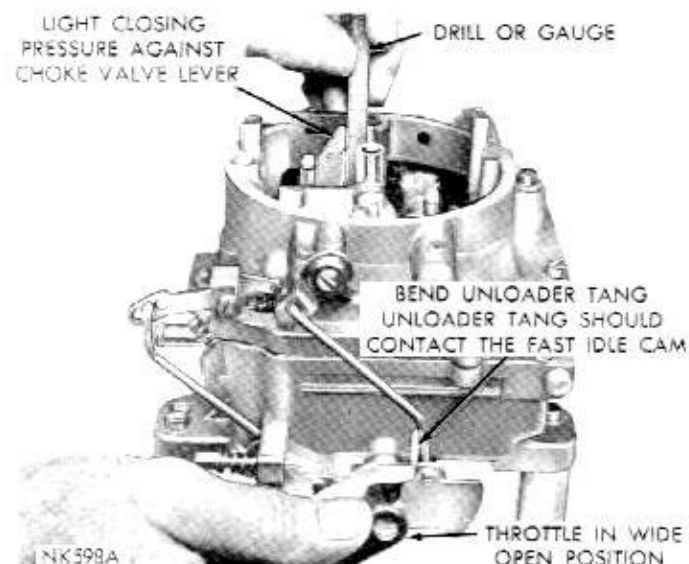

Fig. 16—Checking Choke Unloader (wide open kick)
- (1) Hold throttle valves in wide open position. Insert specified drill (refer to Specifications), between upper edge of choke valve and inner wall of air horn (Fig. 16).
- (2) With a finger lightly pressing against choke valve lever, a slight drag should be felt as drill is being withdrawn. If an adjustment is necessary, bend unloader tang on throttle shaft lever, using Tool T-109-41, until correct opening has been obtained (Fig. 16).